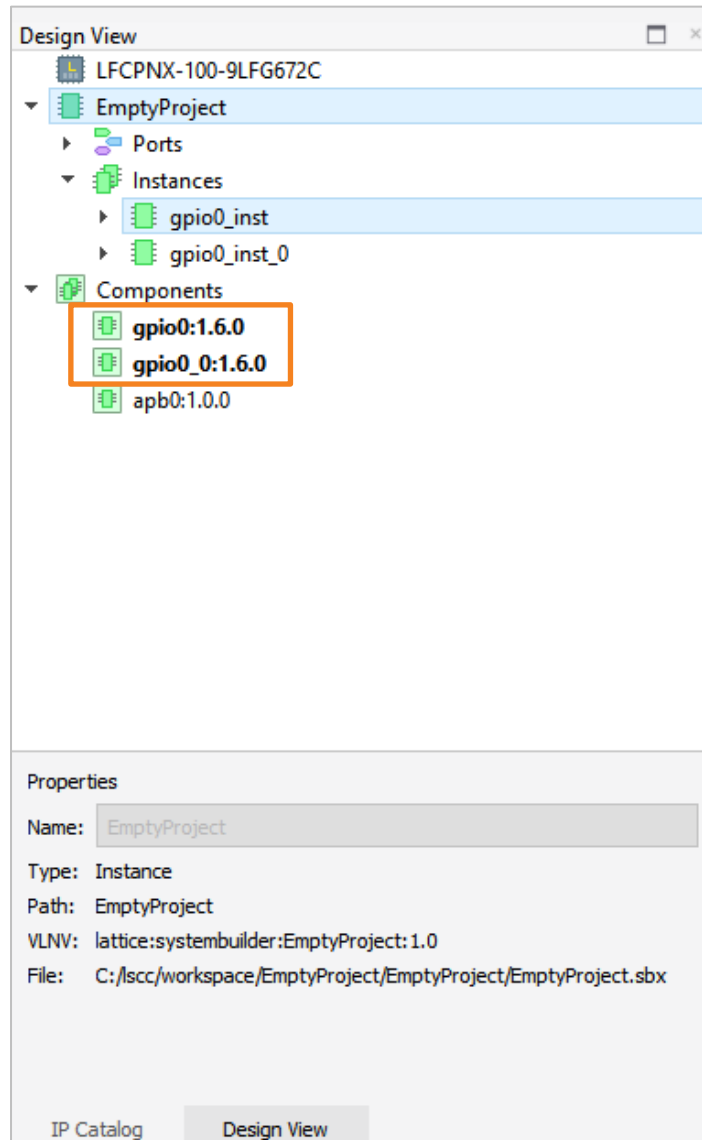

Figure 2.65. Design View
1. In the List view of the Design View (Figure 2.65), go to the Components folder. The deleted module can still be found in the List view in plain text. Those not deleted are shown in bold-faced text.